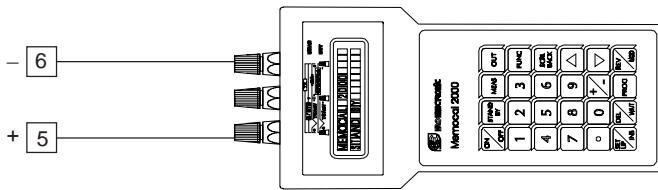

Fig.11
b) Connect the instrument under test to the calibrator as shown in Fig. 11.